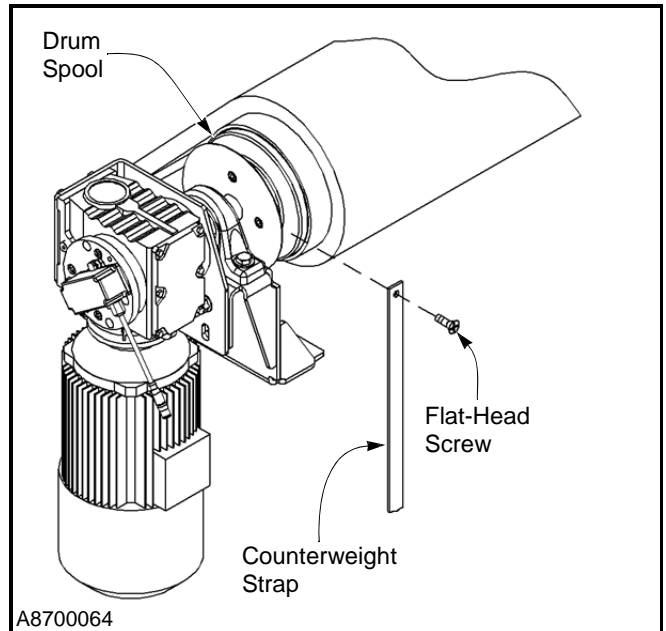

Figure 47
9. Remove and save the screw securing the strap to the drum spool. (See Figure 47)
10. Attach the new strap to the drum spool in the same manner as the old strap using the saved screw. (See Figure 47)